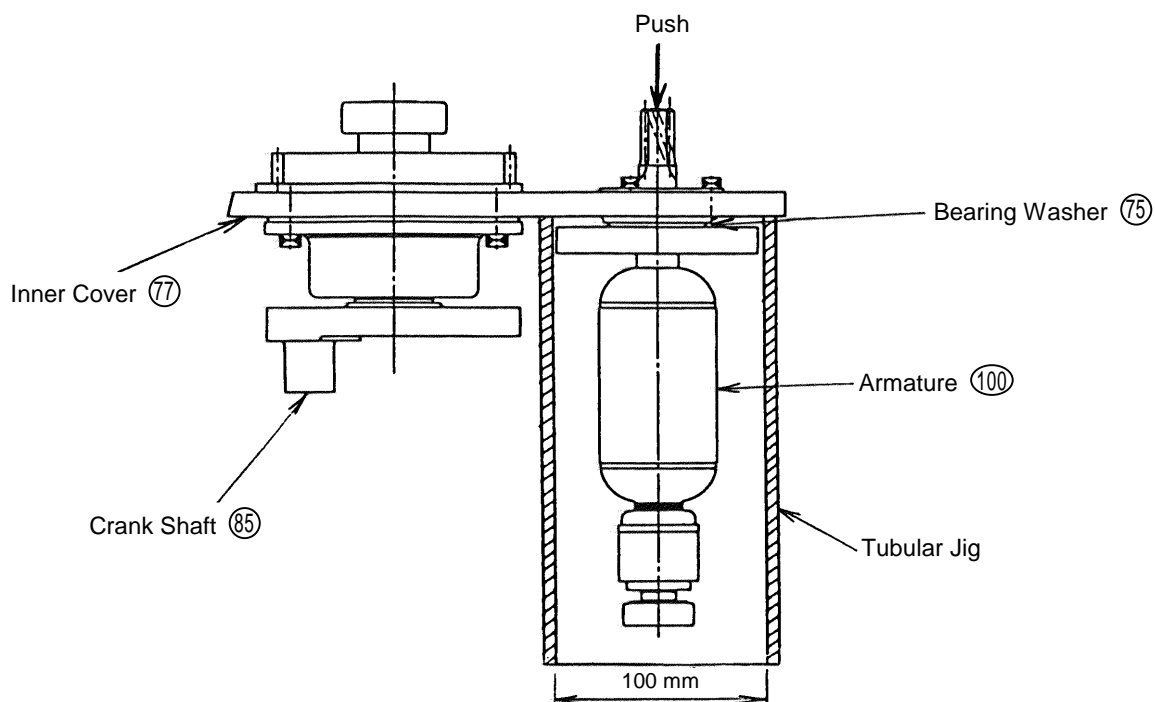

Fig. 8
(1) Disassembly of the Armature (100):
- A. Remove the two M4 x 10 Hex. Socket Hd. Bolts (90), and disassemble the Cap Cover (91) and the Carbon Brushes (93).
- B. Loosen the M8 Lock Nut (Nylon Insert) (48), and remove the M8 Washer (47). Then, while pressing on the Switch Handle side, pull the Side Handle (55) and Handle Holder (A) (56) from the Handle Shaft (51). Next, pull off the Switch Handle side and gently tap the end of the Handle Shaft (51) on one side to loosen and remove the Holder (A) (53) and Handle Dampers (54) (4 pcs) from one side. The Handle Shaft (51) can then be extracted from the Housing Ass'y (86).
- C. Remove the four M10 x 60 Hex. Socket Hd. Bolts (59) and two M10 x 55 Hex. Socket Hd. Bolts (67), and take off the Gear Cover (60). At the same time, also remove the First Gear (69) and Second Gear (70). Next, by inserting a minus screwdriver or similar tool into one of the air vents of the Inner Cover (77) and lifting it upwards, the Inner Cover (77), Armature (100), Crank Shaft (85), and connected parts can be removed in a single body.
- D. As illustrated in Fig. 8, support the Inner Cover (77) with an appropriate tubular jig (100 mm inner dia.), and push down on the pinion end of the Armature (100) with an arbor press to separate the Armature from the Inner Cover (77). At this time, be very careful not to lose the Bearing Washer (75) which is mounted on the fan ass'y portion of the Armature.